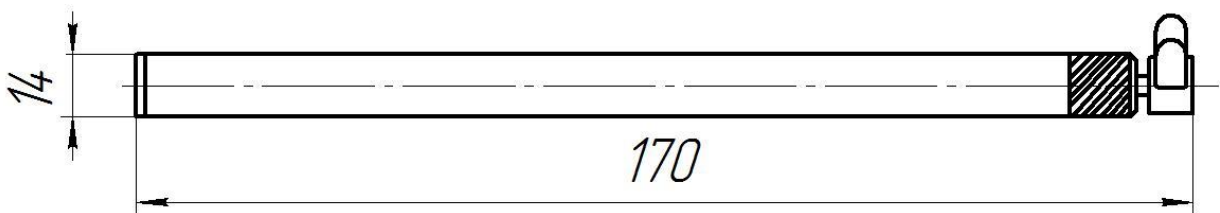

Fig.1
2.4. The laser designator is shown at fig.1.